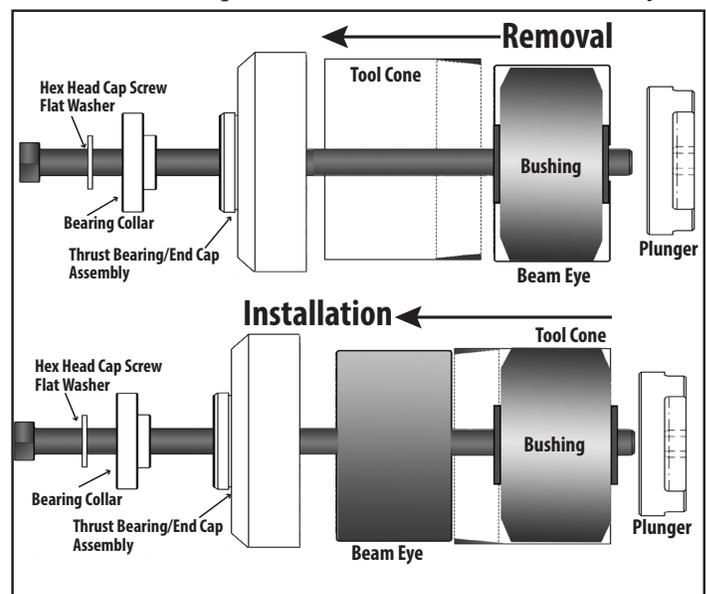

Figure 10. Bushing Tool 6100044 is for RAR 266 trailer suspensions that use a narrow (4 1/8") bushing.
NOTE: Always place the tapered end of the cone against the eye of the beam (Figure 10).
4. Place the plunger/cone/bushing assembly on the beam eye (Figure 10).